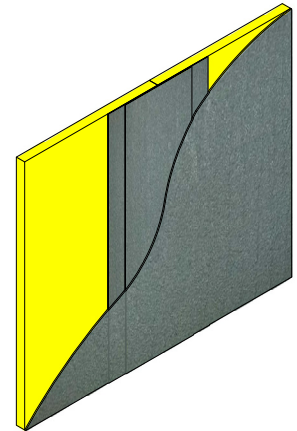

Figure 4
4. Mix and apply Finestop RA/RS/VB per the product bulletin instructions over substrate. (See Figure 4)